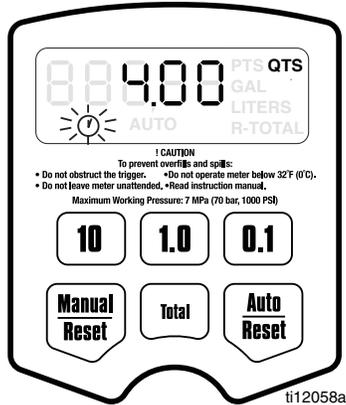

FIG. 27
- e. Press the *Auto / Reset* button again to display the Shut-off Default Amount Menu (FIG. 27, page 19). When the menu is displayed the **clock icon** blinks and the stored shut-off default amount is displayed.
## Shut-Off Default Amount (FIG. 27)